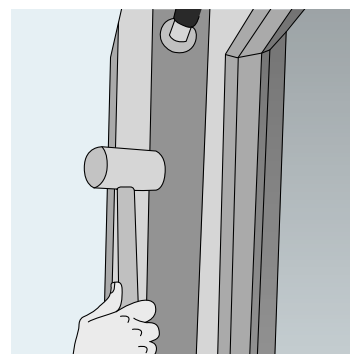

Figure 22
- c. Finish the installation by gently tapping the aluminium part into place using a rubber mallet (figure 22).